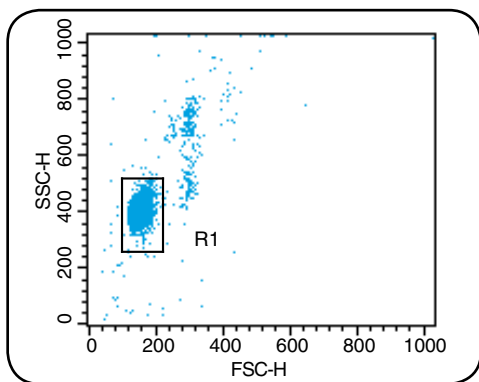

Figure 1
4. Using the forward scatter versus side scatter dot plot, construct a live gate around the singlet population of the Certified Blank. (Figure 1)